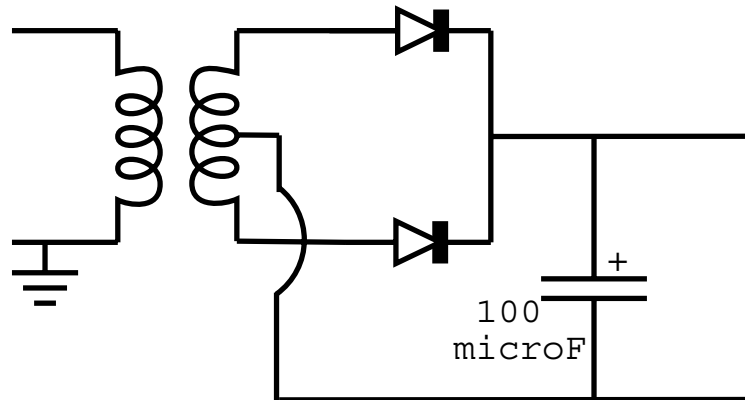

Figure 24: Simple full wave rectifier circuit
A simple full wave rectifier uses two diodes and the centre tap of the transformer. This circuit is shown in Figure 24. When the transformer output is positive, one of the diodes conducts, charging the capacitor. When the transformer output is negative, the other diode conducts also charging the capacitor.
6. Repeat the measurements for the simple full wave rectifier of Fig.24.